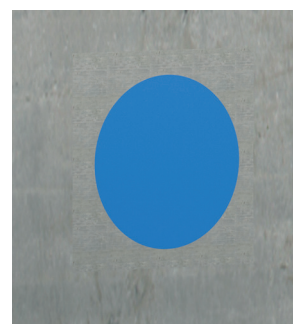

Fig. 2
- Carry out the second concreting. This operation consists of filling in the gaps of the housings, ensuring there is no protrusion in the channel (fig. 2).